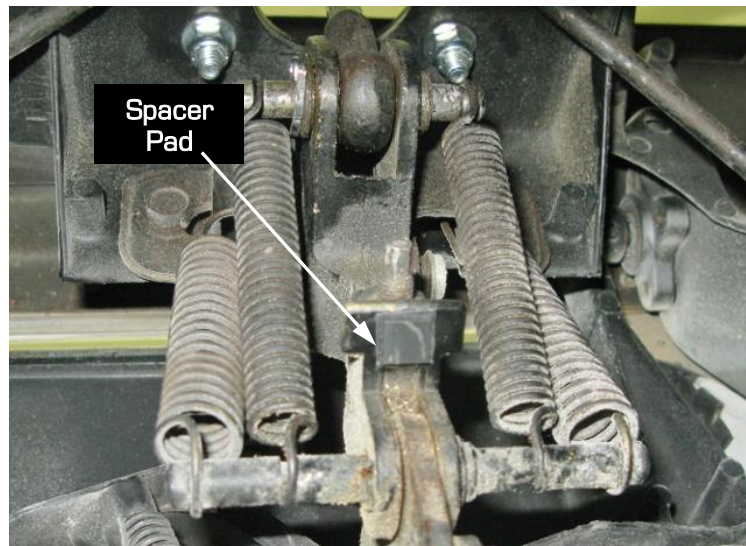

Figure 18 – Install Square Spacer Pad
15. Install the provided square spacer pads to the headlight door assembly on both sides of the vehicle (Figure 18). Make sure you clean the area with lacquer thinner or alcohol on the headlight assembly so the square pad will stick to the bracket.